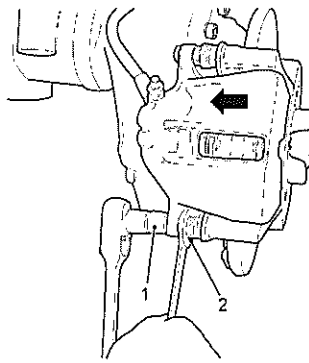

Fig 6 Loosen calliper retaining bolts
- 16 Loosen both top and bottom calliper retaining bolts (see Fig 6 (1)) to cylinder housing while backing up guide pin with open ended spanner (2).